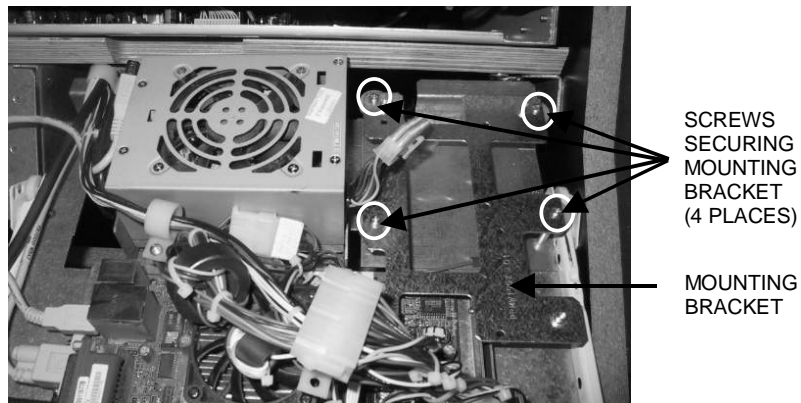

FIGURE 11 - MOUNTING BRACKET FOR NEW I/O BOARD IN UPRIGHT GAME
6. Carefully line up the provided metal mounting bracket on top of the washers, and secure using the 4 provided screws. See Figure 11.